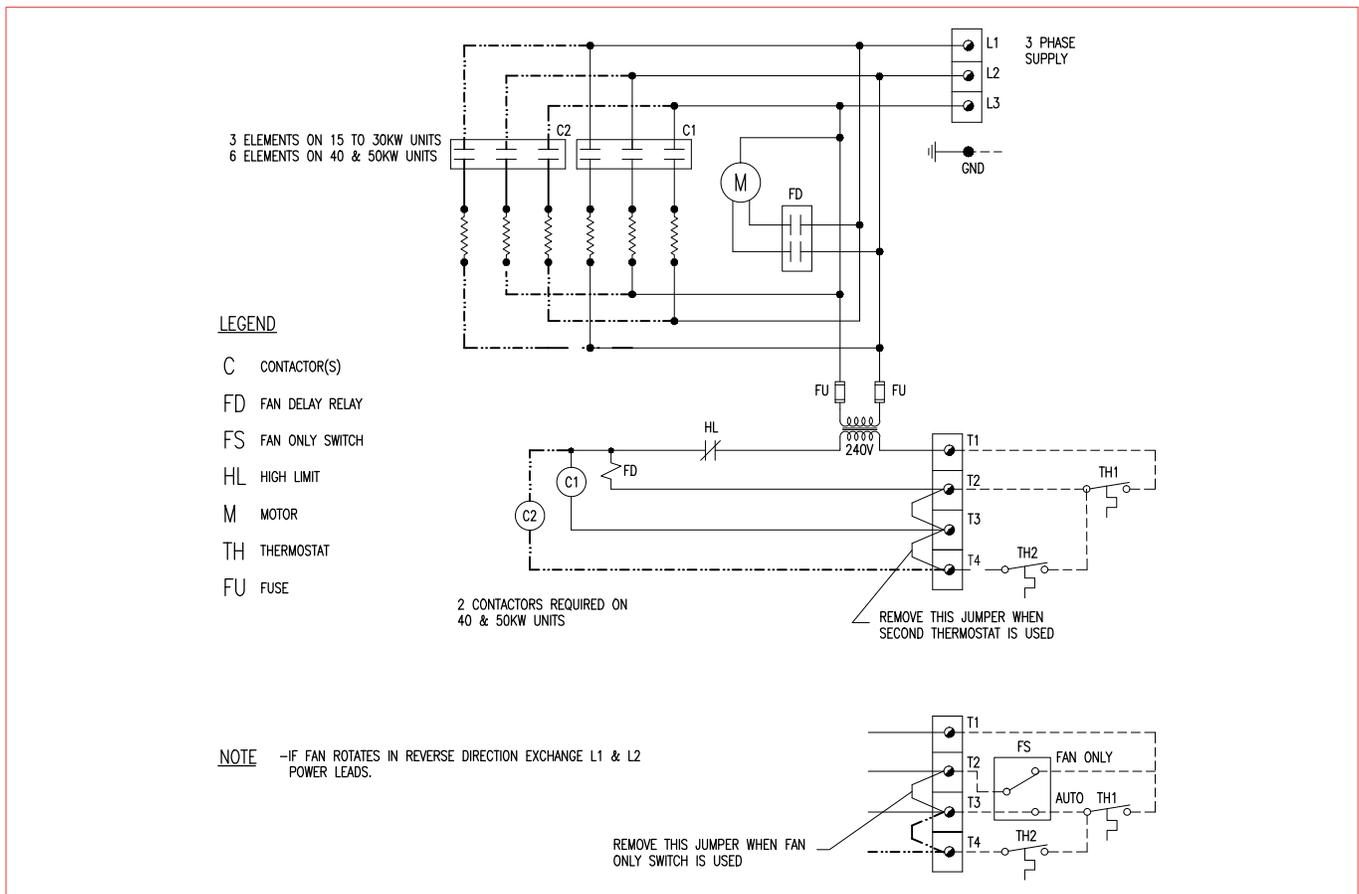

Figure 2A - 480V and 600V with Controls
If the wiring schematics in Figures 2A - 2F, page 5 - 8, do not match your configuration, check inside the control panel door of the unit for specific wiring schematic. Alternatively, all wiring schematics are available online at www.caloritech.com.
1. To operate heater, ensure power supply is properly connected as specified in the wiring schematic (refer to Figure 2A - 2F, page 5 - 8).